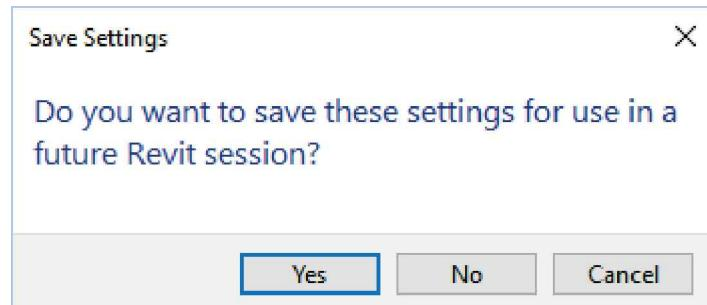

FIGURE 2-6.3 Save Print Settings prompt
6. Click **No** if you get the following prompt (Figure 2-6.3).